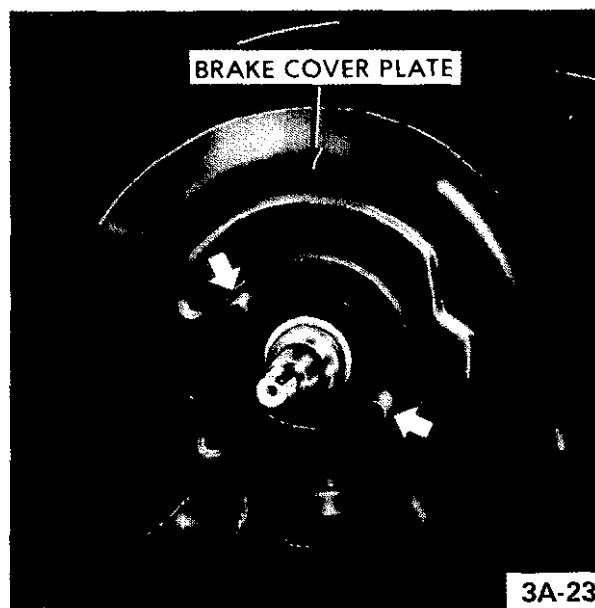

Figure 3A-23 Attaching Brake Cover Plate
2. Attach brake cover plate and steering arm to steering knuckle. If required, install new paper gasket between cover plate and steering knuckle. Care for proper seat of T-head bolts. See Figure 3A-23.